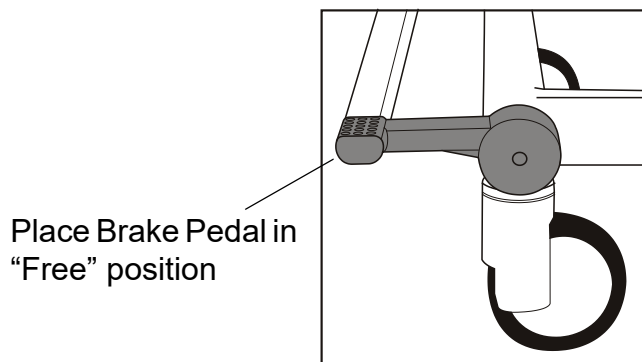

Fig. 2 - Free Position
2. Check that the brakes are unlocked and the brake pedal is in the “Free” position. **(See Fig. 2)**